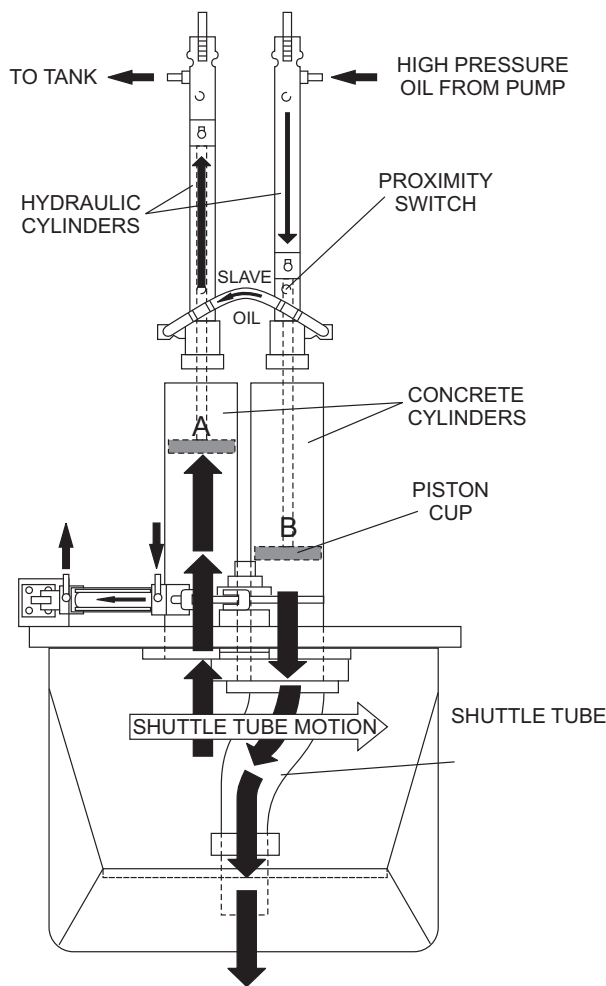

Figure 3. Pumping Cycle 1
In the first cycle, hydraulic pressure is applied to cylinder (B), causing the hydraulic piston, which is connected to the concrete piston and piston cup, to discharge concrete into the delivery line (Figure 3).